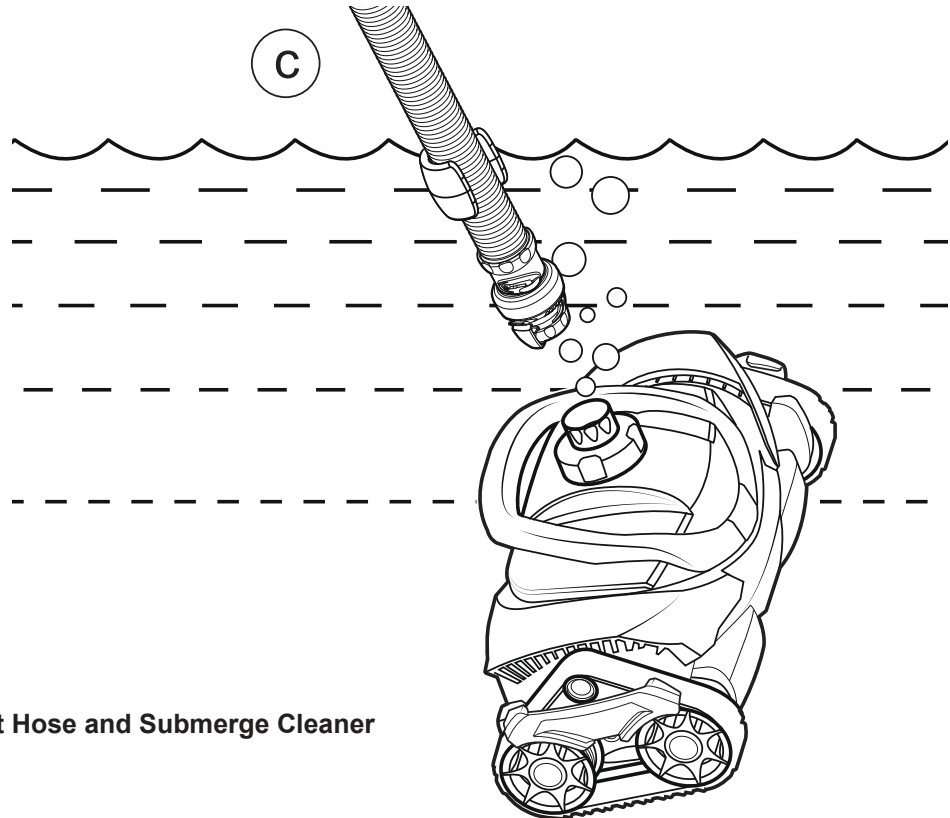

Figure 5. Connect Hose and Submerge Cleaner
1. Ensure that the flow regulator valve (FRV) (e) is attached to the leader hose (c). The leader hose is the hose section with the foam float pre-attached. (Figure 5).